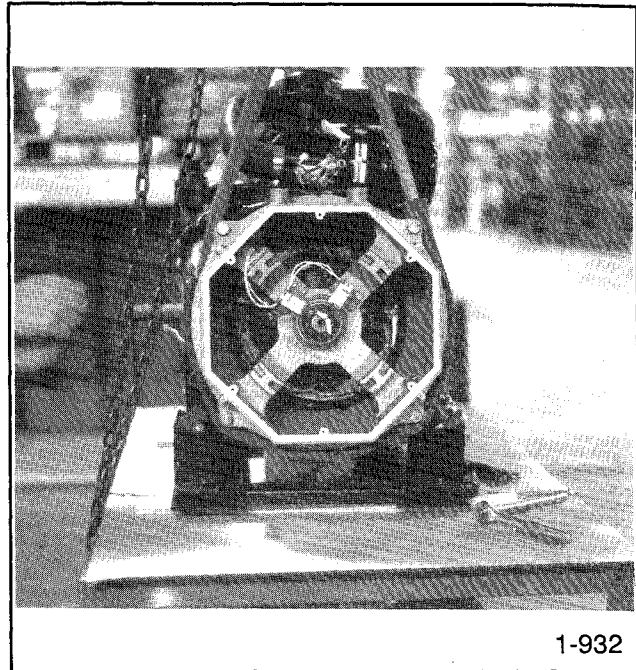

Figure 8-8. Using Hoist to Raise Generator Set.
16. Place the hoist hook into the generator hoisting eye and raise generator end, see Figure 8-8. Place a wood block under flywheel housing and lower generator until housing is supported by block. See Figure 8-8.